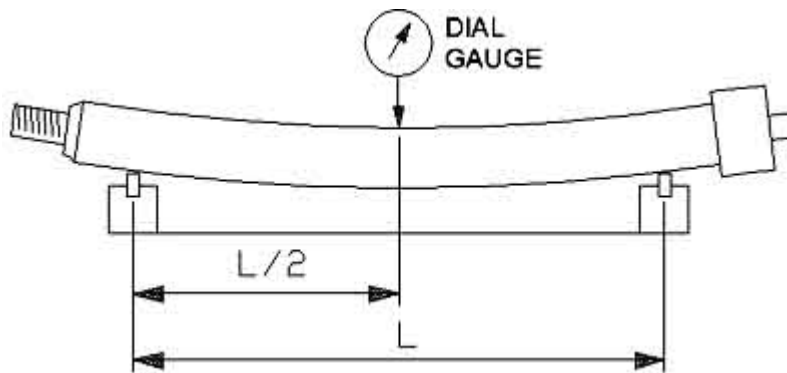

Figure 1. Checking rod straightness.
Rod straightness should always be checked when a hydraulic cylinder is being re-sealed or repaired. This is done by placing the rod on rollers and measuring the run-out with a dial gauge (Figure 1). Position the rod so that the distance between the rollers (L) is as large as possible and measure the run-out at the mid-point between the rollers (L/2).